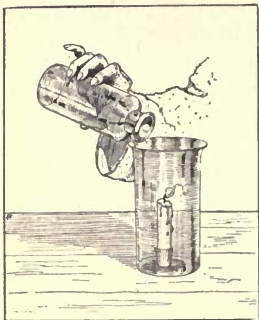

FIG. 70. The candle flame goes out when carbon dioxid is poured over it.
**Exercise 6.** Upon a candle burning at the bottom of a glass (Fig. 70) pour the carbon dioxid collected in Exercise 5 and note the result. The same result may be produced by lowering the lighted taper into a jar which is filled with the gas.